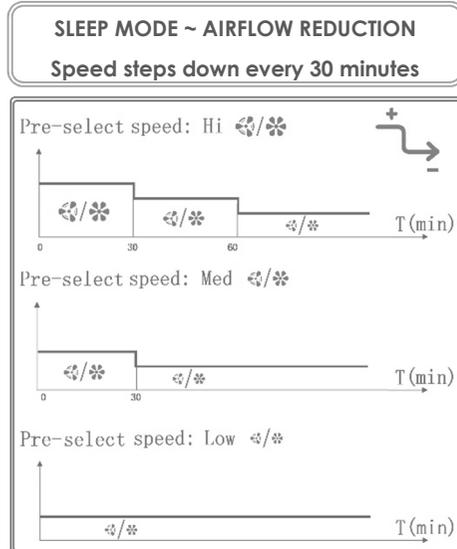

FIG. 6
**D. Sleep Mode ~ Gradual Airflow Reduction (Fig. 6):**